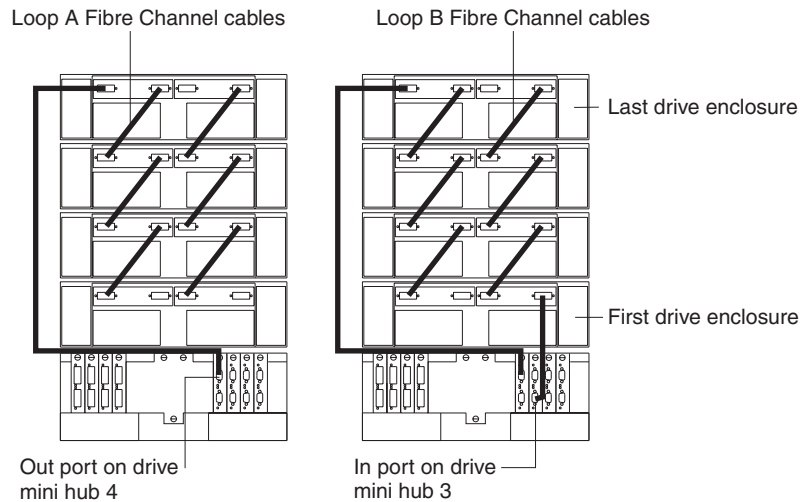

Figure 32. Connecting drive loop A to the FAST700 Storage Server
1. Connect drive loop A to the FAStT700 Storage Server, as shown in Figure 32 on page 31.